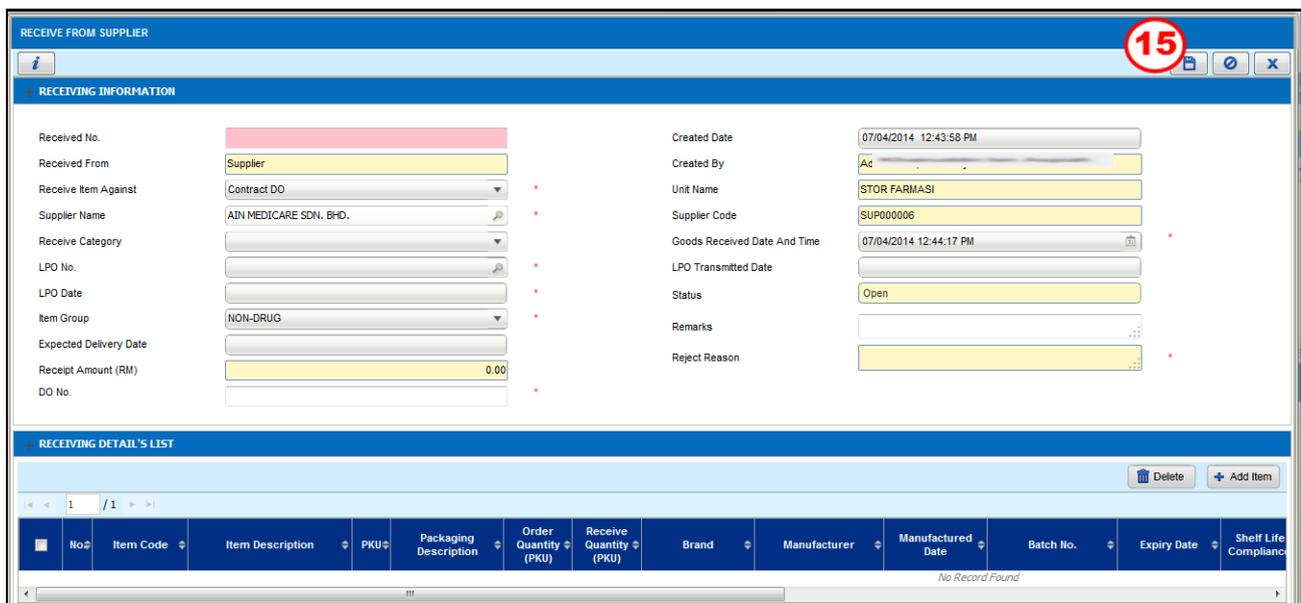

Figure 4.1.5-8 Save Receive from Supplier record
- *System will display an alert message as displayed in Figure 4.1.5-9.*